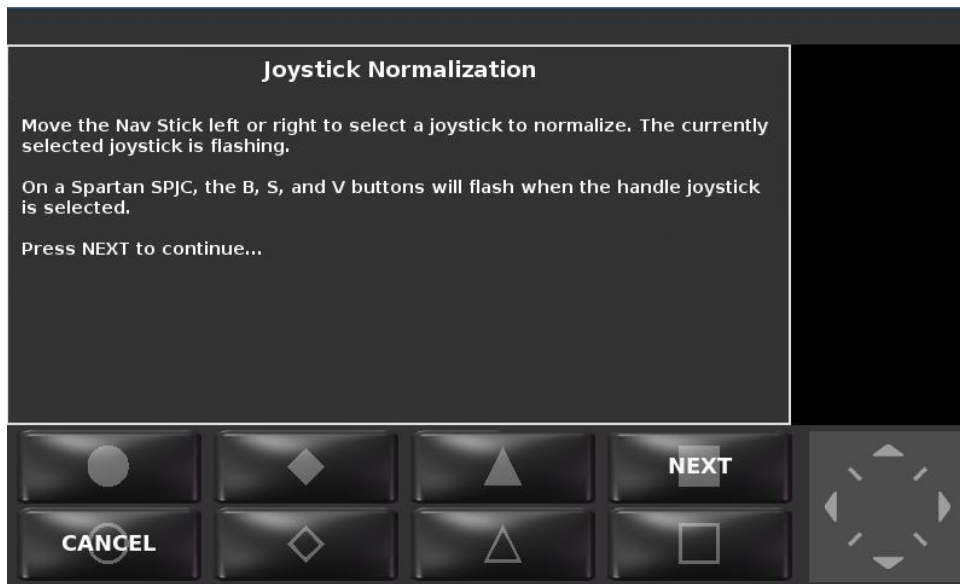

Figure 12: Joystick Normalization Wizard
- STEP 4: The Joystick Normalization wizard will appear, as shown in Figure 12.